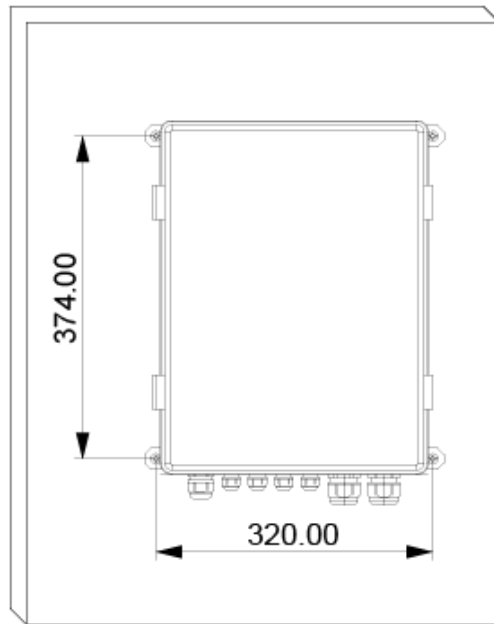

Fig. 5.1 Installation Diagram (Unit: mm)
2. Determine the drilling hole positions according to hangers (Refer to Fig. 5.1)